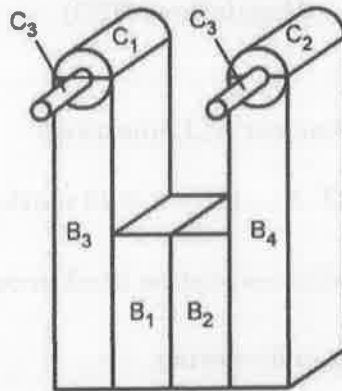

Fig.12(b)
- (b) Sketch the CSG tree for each of the two solids shown in Fig. 12(b)